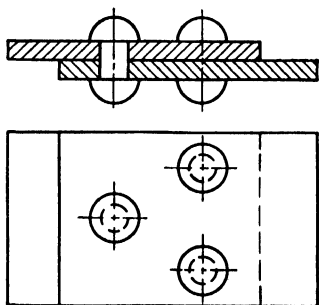

Fig. 234.—Lap joint, $\frac{5}{64}$ in. diameter, 53S-T rivets, driven cold as received.
4. Find the strength of the lap joint shown in Fig. 234.